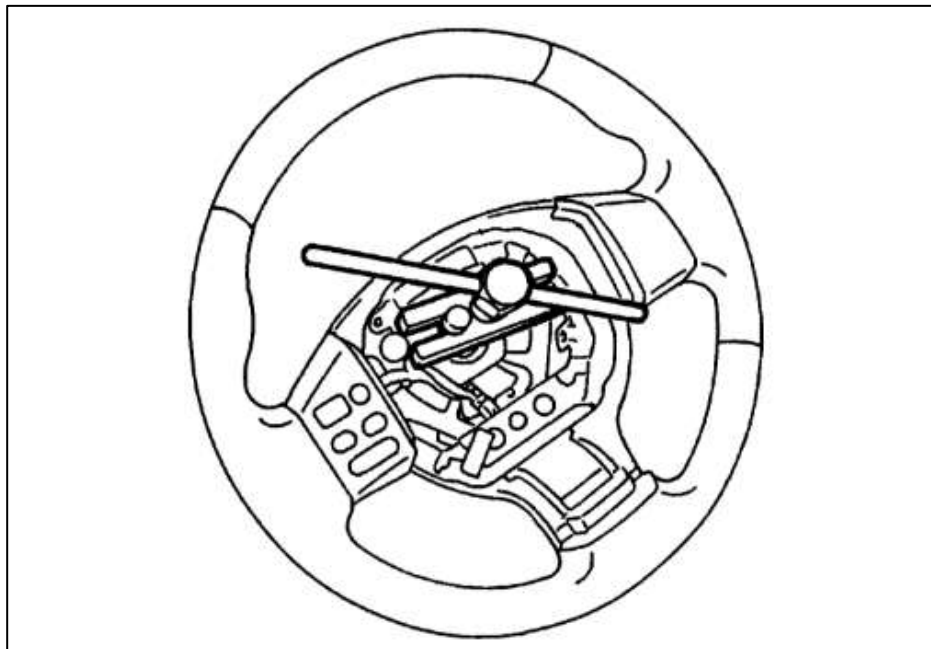

Figure 6
- f. Using a Steering Wheel Puller, remove the OE Steering Wheel. If you do not have a Steering Wheel Puller, grab the Steering Wheel at the top and bottom, and rock the wheel back and forth to loosen it. *Figure 6.*